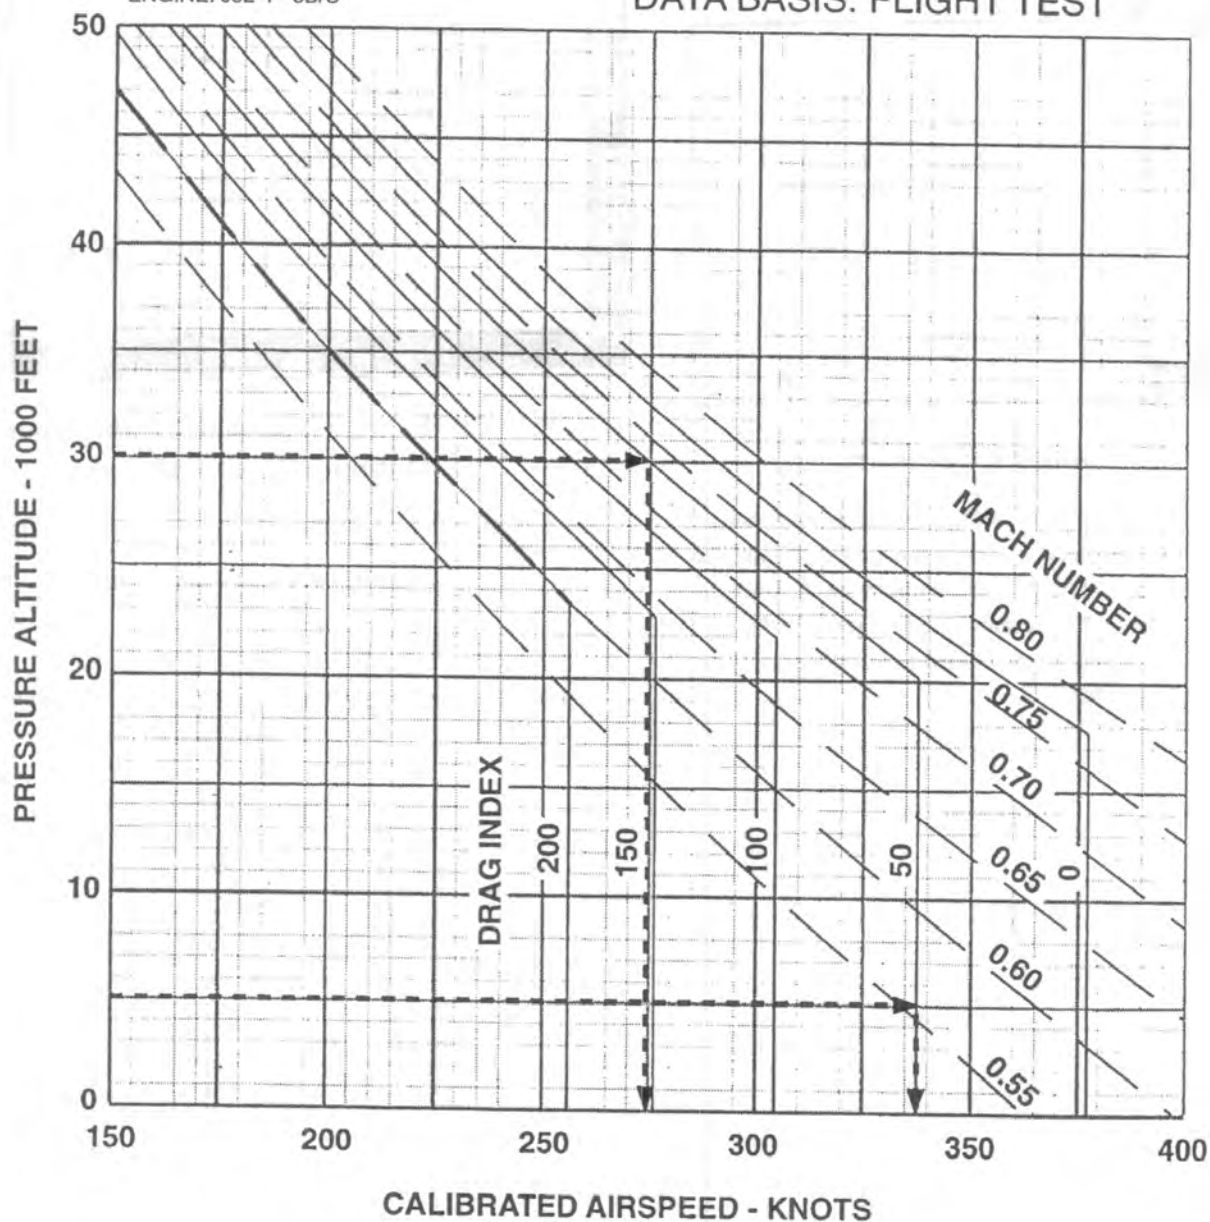
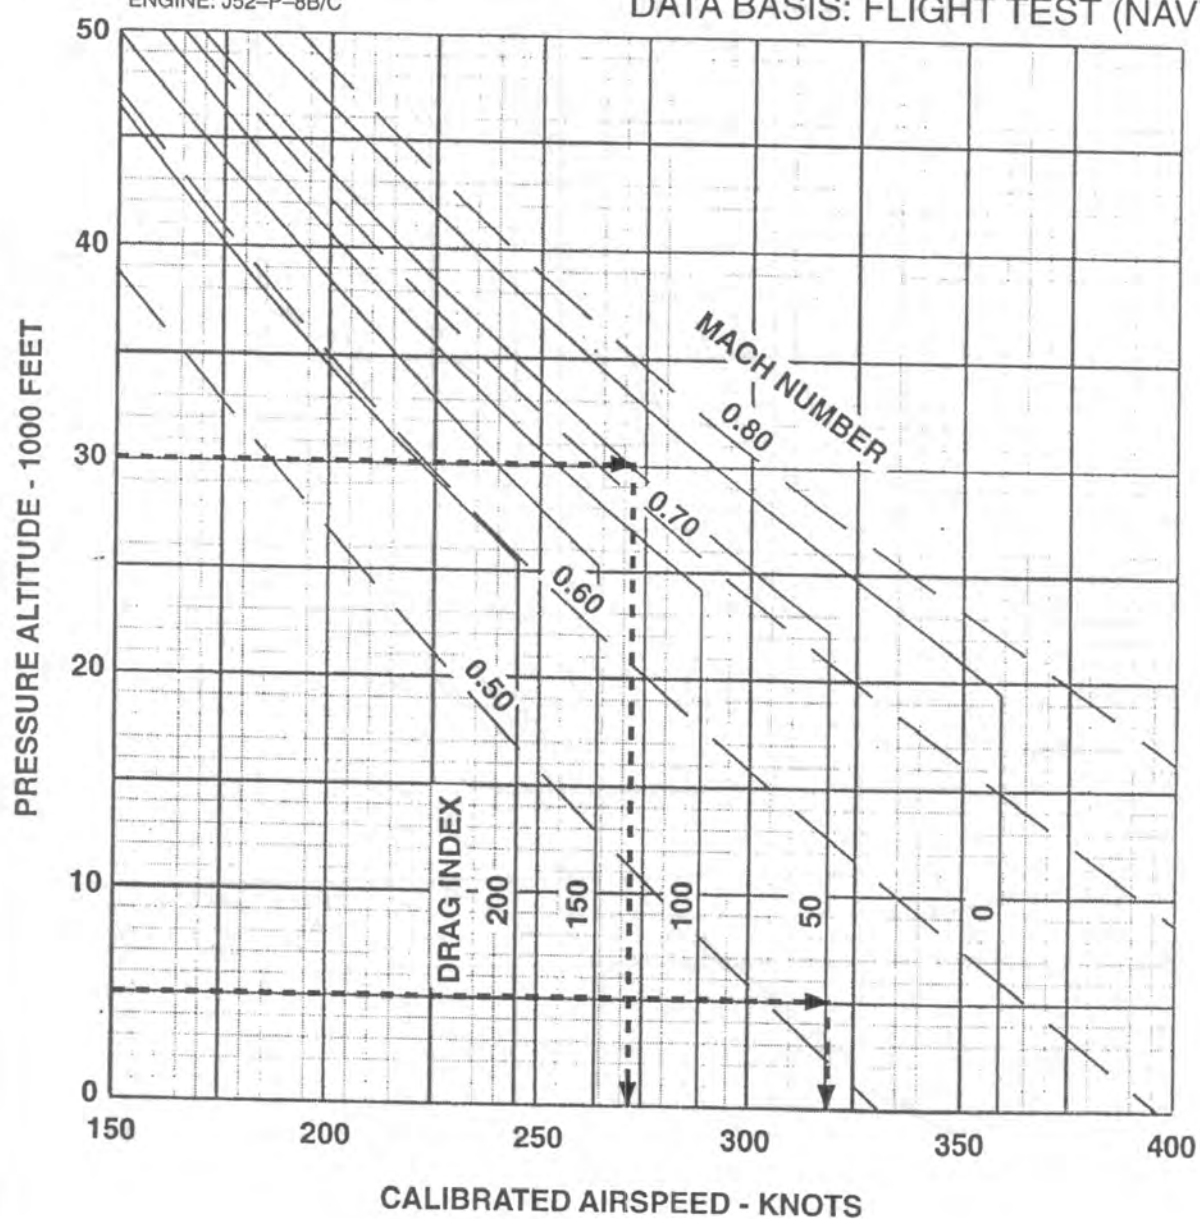

Figure 9-24 Climb Speed Schedule A-4
Figure 9-25 Climb Speed Schedule TA-4
9.31 Climb charts (Figure 9-24 through Figure 9-32) present the climb performance for all drag index configurations with the engine operating at military thrust. Climb speeds are presented in Figure 9-24, and Figure 9-25, as a function of drag index but independent of gross weight. The climb speed schedule is based on a minimum time to climb and does not represent a maximum range climb.
(For Figure 9-24)